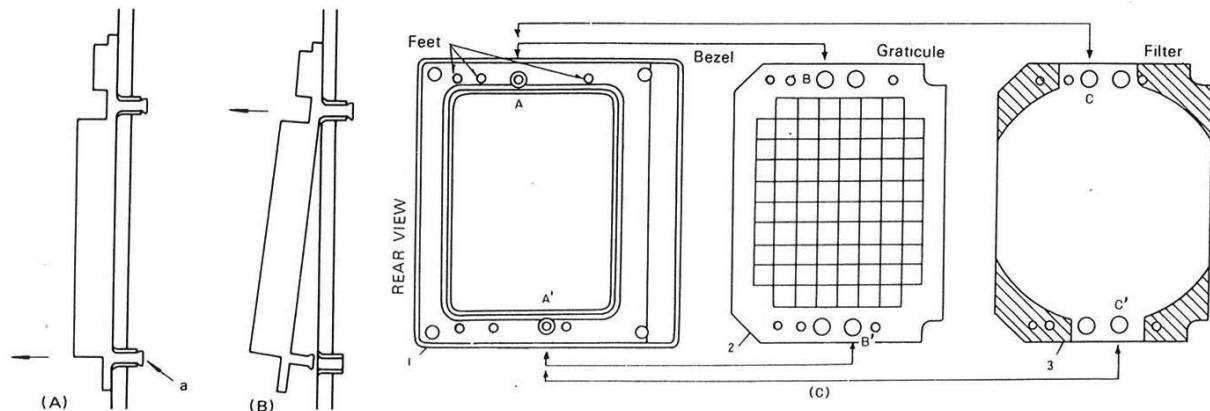

Fig. 3 Removing the Bezel
### 2. REMOVING THE BEZEL (Refer to Fig. 3)
Since the bezel is mounted on the case through the four mold legs on its back, it can directly be removed without using any tool. However, the mold legs may be broken if unreasonable force is exerted carelessly. As shown in Fig. 3 (A), remove the two legs on the bottom side first. They should not be dismantled completely. They should be loosened so that part *a* of each leg's tip is unlocked as
shown in Fig. 3 (B). Then the remaining two legs on the top side can be dismantled. In dismantling these legs, only vertical force should be exerted always against the panel surface.
When mounting the bezel 1 on the case, as shown in Fig. 3 (C), get the two holes *B* and *B'* of the graticule engaged with the two bosses *A* and *A'* of the bezel 1. Then get them engaged with the two holes *C* and *C'* of the filter 3.